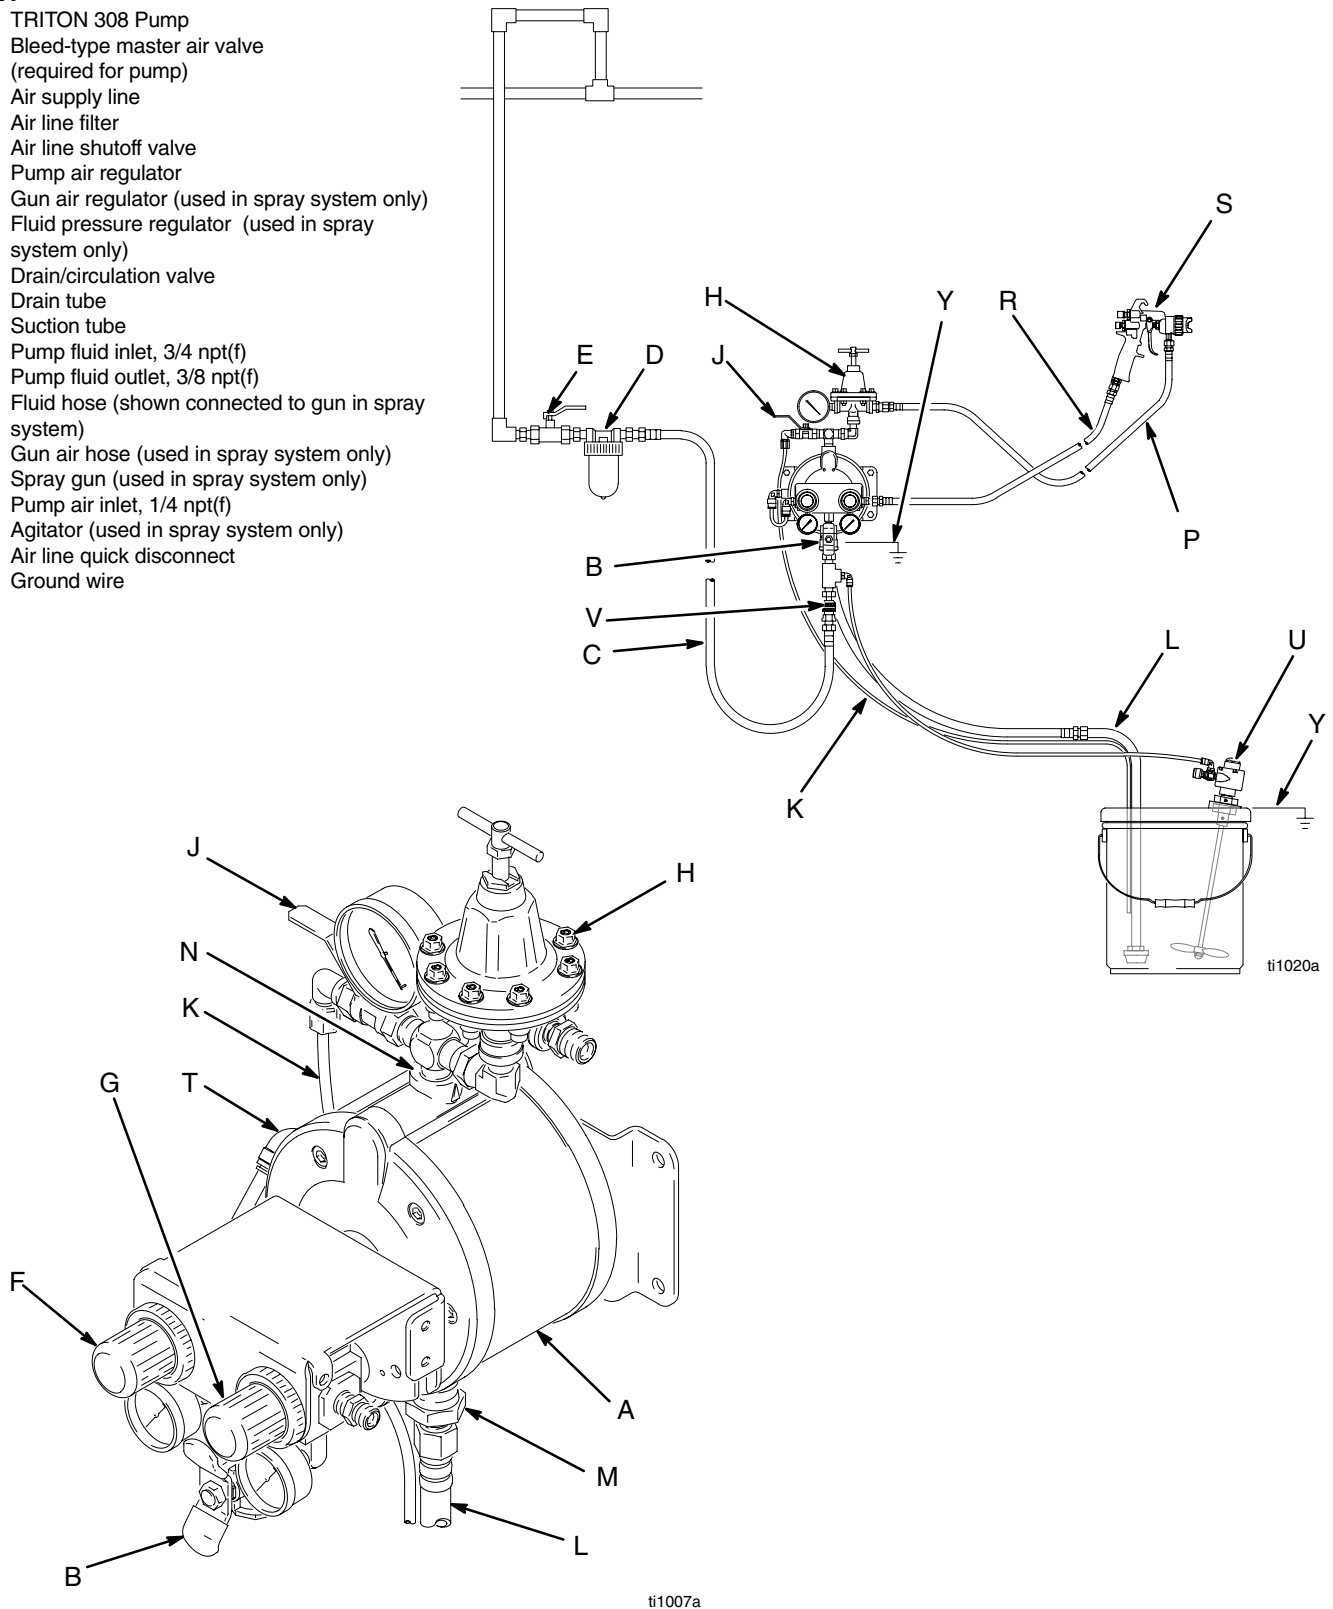

Fig. 2
- Fig. 2 shows a wall mounted HVLP spray application. It is only a guide for selecting and installing system components. Contact your Graco distributor for assistance in planning a system to suit your needs.
A bleed-type master air valve (B) is required in your system to relieve air trapped between this valve and the pump. See Fig. 2. Trapped air can cause the pump to cycle unexpectedly, which could result in serious injury, including splashing in the eyes or on the skin, injury from moving parts, or contamination from hazardous fluids.
1. Install the air line accessories as shown in Fig. 2. Mount these accessories on the wall or on a bracket. Be sure the air line supplying the accessories is electrically conductive.
- a. The fluid pressure can be controlled in two ways. On the air side, use the pump air regulator (F). On the fluid side, install a fluid regulator (H) near the pump fluid outlet.
- b. Locate a bleed-type master air valve (B) close to the pump, to relieve trapped air. See the **WARNING** at left. Locate another air valve (E) upstream from all air line accessories, to isolate them during cleaning and repair.
- c. Install an air line filter (D) to remove harmful contaminants such as dirt, moisture, and oil from the compressed air supply.
3. Install an electrically conductive, flexible air hose (C) between the accessories and the 1/4 npt(f) pump air inlet (T). Use a minimum 1/4" (6.3 mm) ID air hose. Screw an air line quick disconnect coupler (V) onto the end of the air hose and screw the mating fitting into the pump air inlet snugly. Do not connect the coupler to the fitting yet.
A fluid drain valve (J) is required in your system to relieve pressure in the hose if it is plugged. See Fig. 2. The drain valve reduces the risk of serious injury, including splashing in the eyes or on the skin, or contamination from hazardous fluids when relieving pressure. Install the valve close to the pump fluid outlet. To use the valve as a circulation valve, connect a tube (K) between the valve and pail.